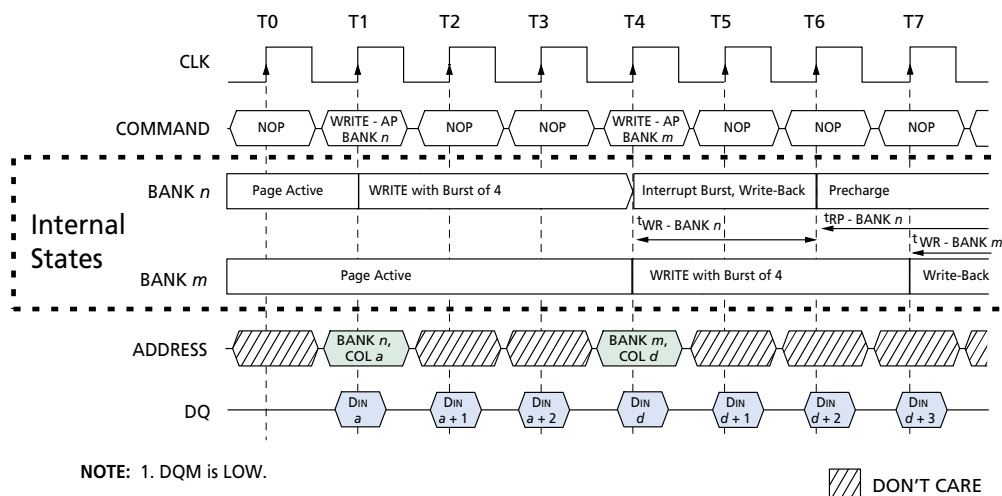

Figure 27
- Interrupted by a WRITE (with or without AUTO PRECHARGE): A WRITE to bank m will interrupt a WRITE on bank n when registered. The PRECHARGE to bank n will begin after t_{WR} is met, where t_{WR} begins when the WRITE to bank m is registered. The last valid data WRITE to bank n will be data registered one clock prior to a WRITE to bank m (Figure 27).